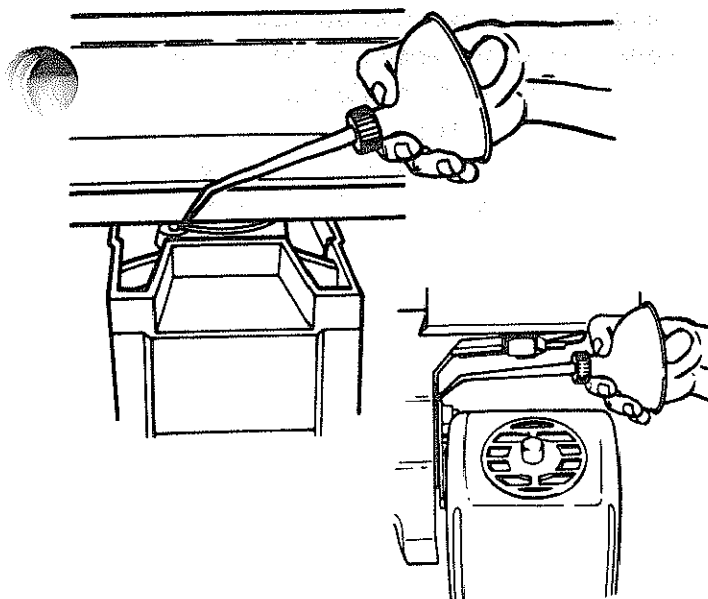

Fig. 174 - Swivel and Bevel Index Pins
- Apply a few drops of oil along the *swivel index pin* and the *bevel index pin* only if the pins have a tendency to stick. Swivel to in-rip or out-rip for easy access to the *swivel index pin*. Bevel to 45° and *bevel index pin* can be easily accessed behind the yoke as illustrated. (Figure 174)